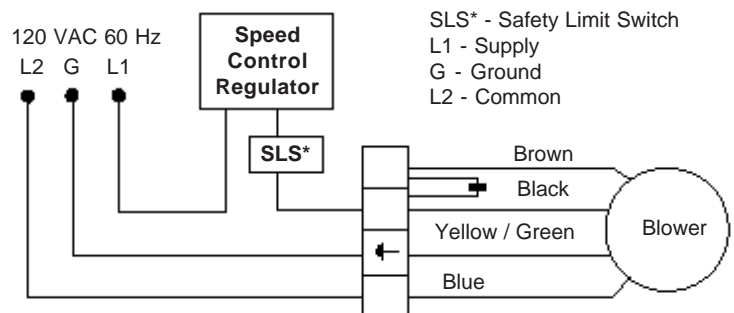

Figure 9 - Wiring Diagram
10. All wiring must be carried out in accordance with National Electrical Code, and all applicable state and local buildings codes. Figure 9 provides a wiring diagram.